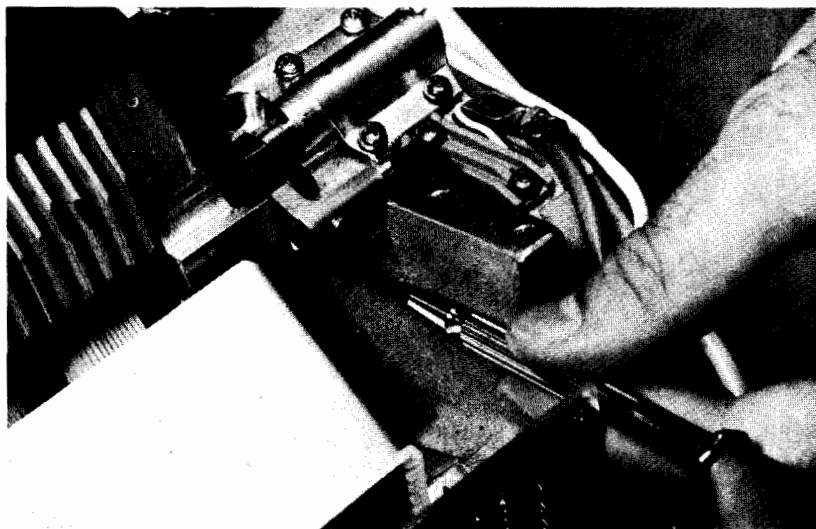

Figure 4. Position Transducer Adjustment
- c. Loosen, just slightly, the screw which attaches the position transducer vane to the core bar (see figure 4). Move the vane to approximately the center adjustment position and tighten the attaching screw.
- e. Again loosen the vane attaching screw. Using a flat blade screwdriver in the adjustment pivot slot (see figure 4), centered vertically. Tighten the attaching screw while maintaining the centered trace position. This adjustment causes the position control system rest position to coincide with the mechanical rest position.